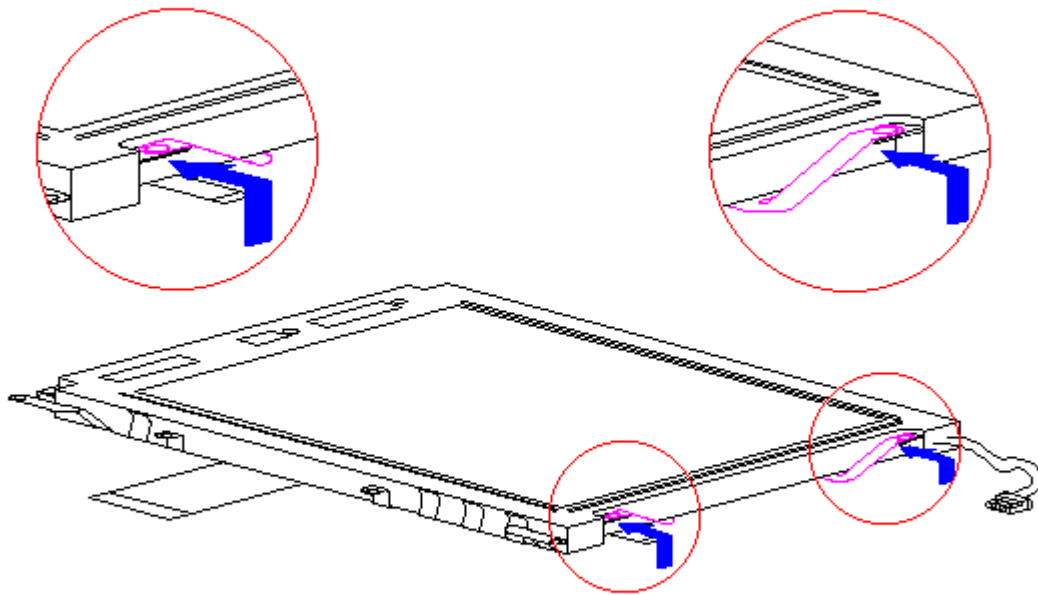

Figure 3-113. Positioning the Display Shield Tabs (Models 400 and 410)
4. Place the display shield tabs in the indentations on the sides of the CSTN (9.5 inch) panel (Figure 3-113).